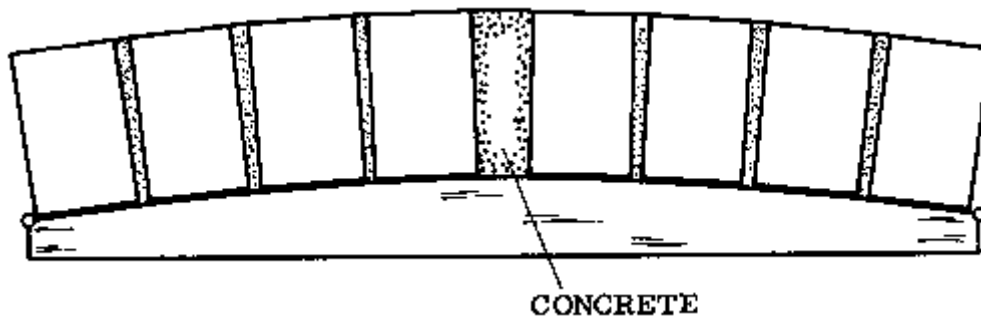

Fig. 3
- One can reverse the marking by starting from the springing points and marking by turns from the left and right up towards the crown. The remaining opening is then filled with either a specially made keystone, or with concrete (Fig. 3). This is preferred if the springers would overlap the springing points by too much.